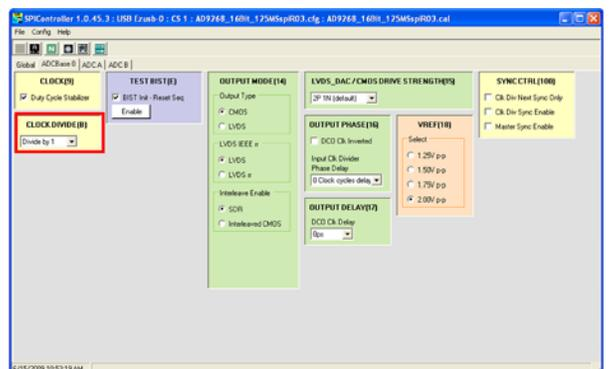
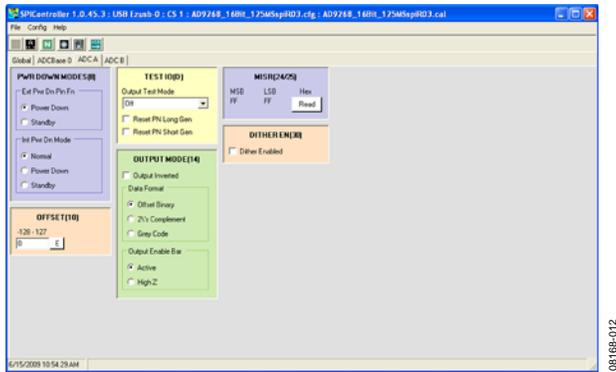

Figure 12. SPI Controller, CLOCK DIVIDE(B) Box
Figure 13. SPI Controller, Example ADC A Page
3. In the **ADCBase 0** tab of the **SPIController** window, find the **CLOCK DIVIDE(B)** box (see Figure 12). If using the clock divider, use the drop-down box to select the correct clock divide ratio, if necessary. See the appropriate part data sheet; the **AN-878** Application Note, *High Speed ADC SPI Control Software*; and the **AN-877** Application Note, *Interfacing to High Speed ADCs via SPI*, for additional information.
- Note that other settings can be changed on the **ADCBASE 0** page (see Figure 12) and the **ADC A** and **ADC B** pages (see Figure 13) to set up the part in the desired mode. The **ADCBASE 0** page settings affect the entire part, whereas the settings on the **ADC A** and **ADC B** pages affect the selected channel only. See the appropriate part data sheet; the AN-878 Application Note, *High Speed ADC SPI Control Software*; and the AN-877 Application Note, *Interfacing to High Speed ADCs via SPI*, for additional information on the available settings.